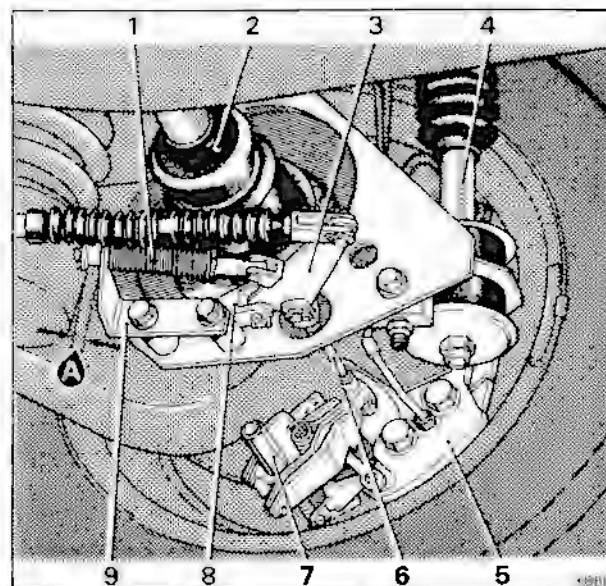

Fig. G20-5 Parking brake caliper and cable adjustment
5. Ensure that the parking brake caliper is on its 'off stop'. Check that the clearance (see fig. G20-5, point A) between the washer on the spring guide rod and the spring abutment bracket is approximately 6 mm (0.250 in) at the point of minimum clearance. Bend the abutment bracket as necessary.